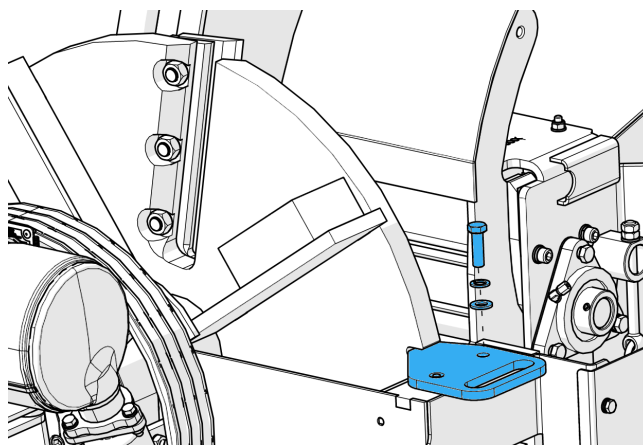

Figure 51 - Installing the flywheel locking tool
6. Turn the flywheel until it is in the locking position (Figure 51).
7. Insert the flywheel locking tool into the groove on the flywheel. The groove becomes visible once the wheel is in the correct position (Figure 51).